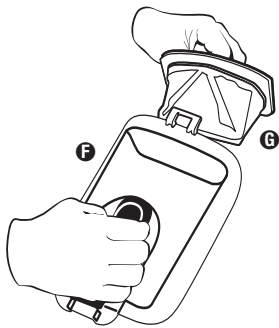

FIG. 7
Step 2: Grasp handle inside filter and pull filter out of dust cup **F** (FIG. 7).
Paso 2: Tome la manija del interior del filtro y jale para extraerlo del recipiente **F** (FIG. 7).